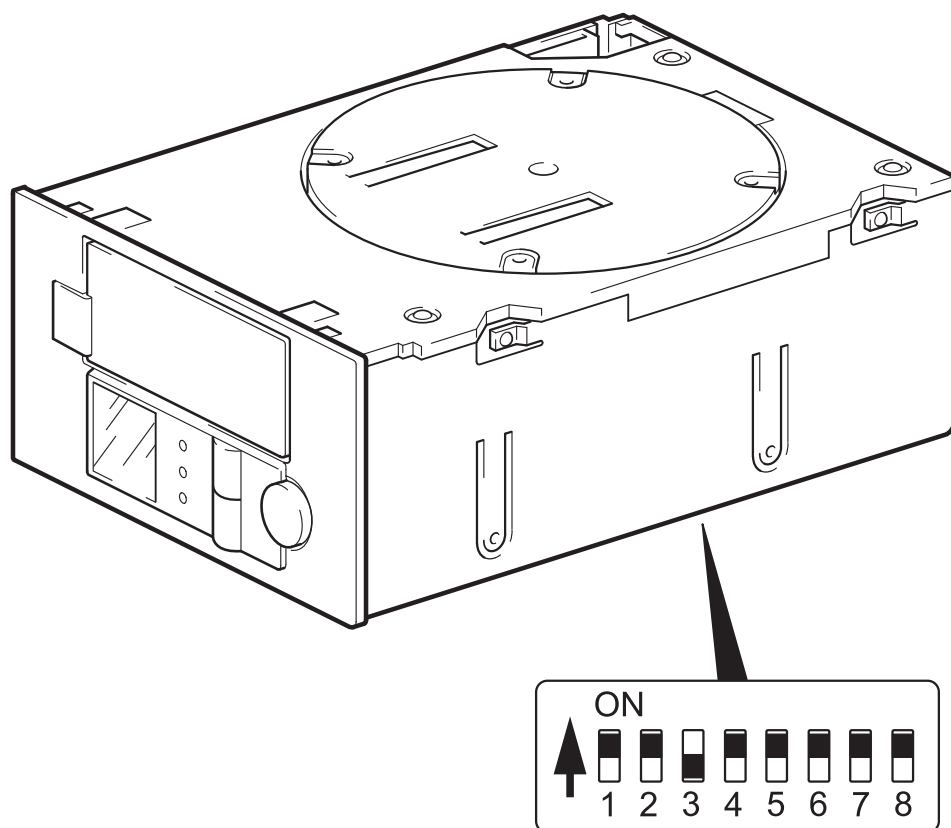

Figure 5: checking the UNIX configuration switches
- 2 If your UNIX configuration requires it, change the configuration switches located on the underside of the autoloader from the default settings shown in figure 5.